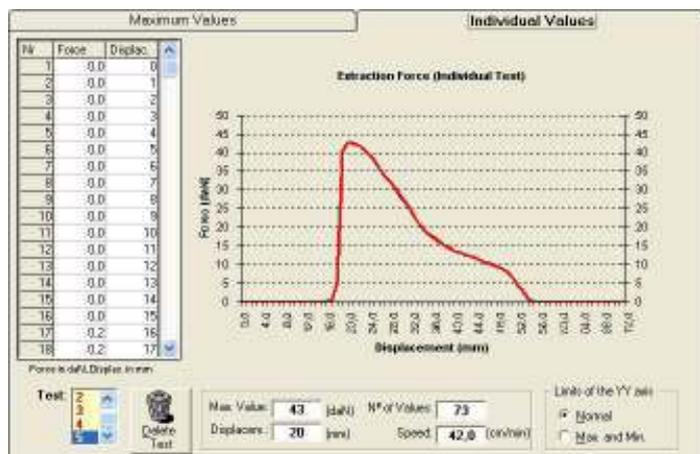

Figure 23 – Individual Test window
- Individual Values** (figure 23): window where one can see the individual force values of each test. There is a table with the force values and the correspondent displacement. There is also a graph showing the force progress during extraction. For a better graph display, it is possible to setup the ordinate axis limits. If the “Normal” option is selected, the graph is shown with an inferior limit of zero and a superior limit equal to the maximum value of all tests. If selected the “Max. and Min.” option, the graph is shown with a maximum limit near the maximum of the chosen test.